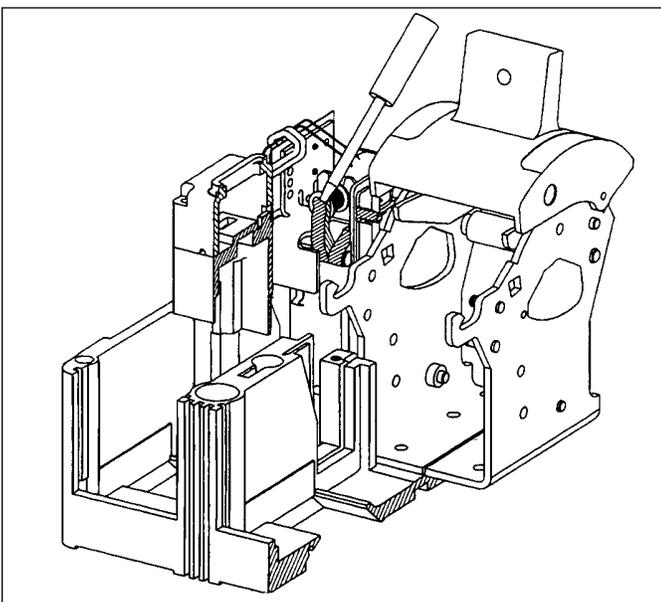

Figure 2-5 Screwdriver Depressing Undervoltage Release's Solenoid Plunger
- b. Mechanical check. Using a small flat-blade screwdriver, (Figure 2-5), push in and hold solenoid plunger. Switch circuit breaker to ON. Release solenoid plunger and check that circuit breaker trips.
- c. Reset circuit breaker handle and check that handle arm moves reset lever (Figure 2-5) to reset the solenoid plunger.